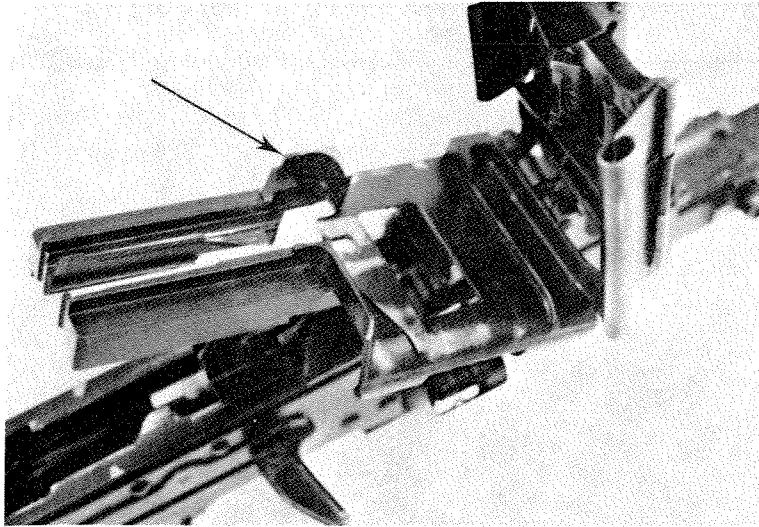
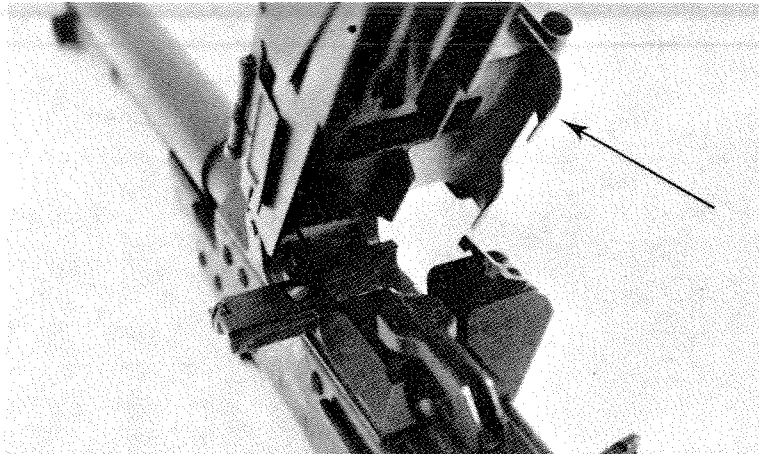

Figure 3-4. Ammunition feed tray cover.
Figure 3-5. Ammunition feed tray cover in the fully open position.
- e. Raise the feed tray cover (fig. 3-4) to the fully open position (fig. 3-5) to expose the internal working parts.